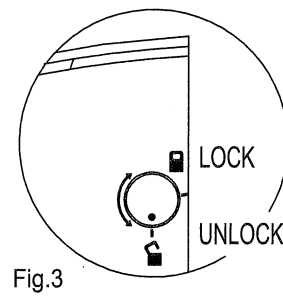

Fig.3
4. Use key to unlock and remove the soap dispenser casing. (Fig. 3)